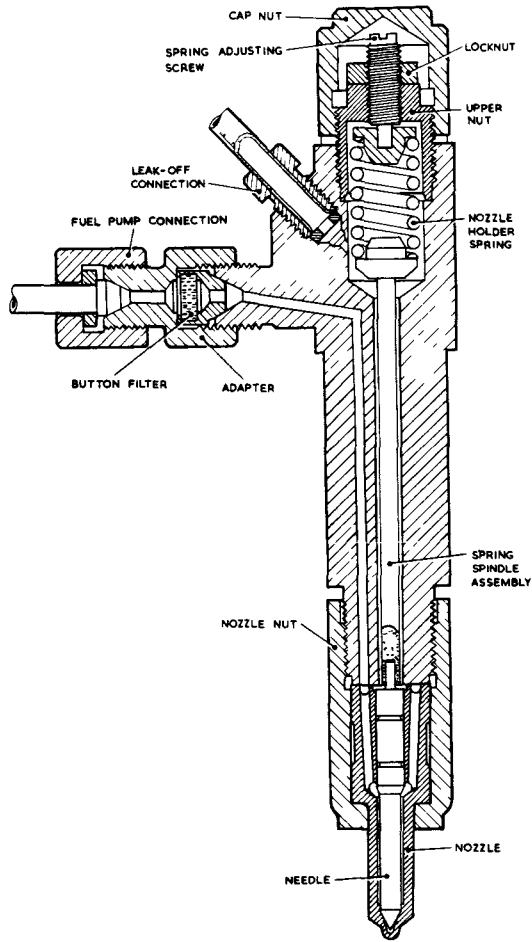

Fig. 7 Fuel injector
27. Injectors (fig. 7). The injectors, which have integral fixing flanges, are mounted in the cylinder heads and inject directly into the cylinders. They are of the long-reach pattern in which the lapped portion of the needle is comparatively remote from the heat of combustion while that portion in the heated zone is surrounded and cooled by the fuel. Apart from this the injectors are of conventional design, embodying such features as a leak-off pipe and means of adjusting the spring release pressure. Final filtering is provided by a "button" filter fitted on the high-pressure side of each injector.